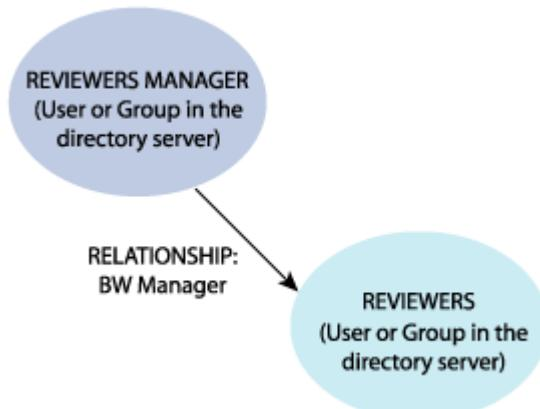

Figure 16-1 Relationships Between Users and/or Groups
- **Relationship**—forms a named and directional binding that ties one physical organizational principal (an organizational user or group in the directory server) to another. For example, a Reviewers Manager has a BW Manager relationship to a group called Reviewers, as shown in Figure 16-1.